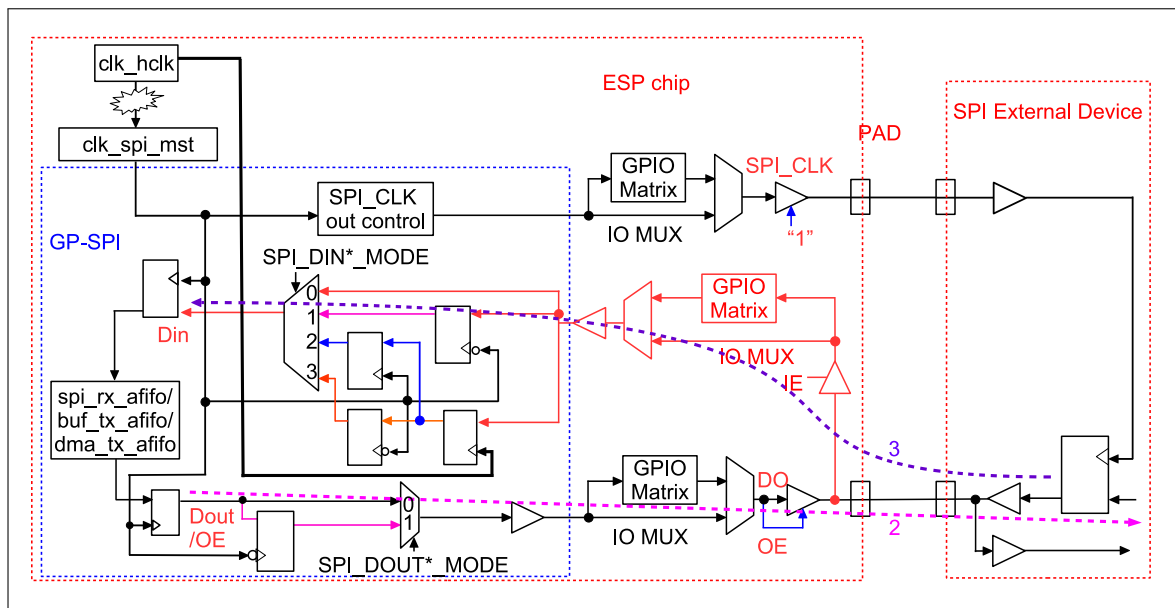

Figure 30.8-1. Timing Compensation Control Diagram in GP-SPI2 Master Mode
Figure 30.8-1 shows the timing compensation control for GP-SPI2 master mode, including the following paths:
- “IN”: data input path of GP-SPI2 (see line 3 path in color purple in Figure 30.8-1). The input data from an external SPI device passes through GPIO matrix or IO MUX, then is adjusted by the Timing Module (see Figure 30.5-2) and finally is stored into spi_rx_afifo.
- “OUT”: data output path of GP-SPI2 (see line 2 path in color rose-red in Figure 30.8-1). The output data is sent out to the Timing Module, passes through GPIO matrix or IO MUX and is then captured by an external SPI device.